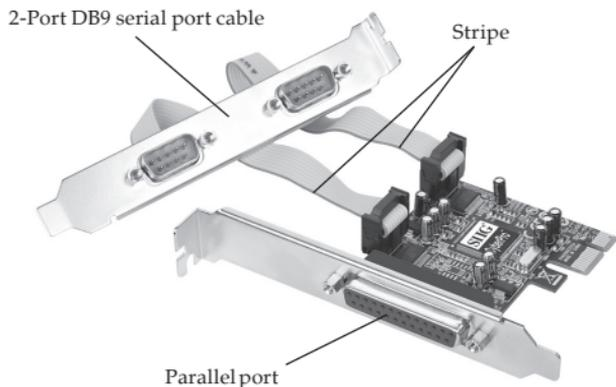

Figure 1: Board Layout
Note: When connecting the **2-Port DB9 serial port cable**, position the ribbon cable(s) so that the stripe is on the side closest to the parallel port. See **Figure 1**.
5. Connect the **2-Port DB9 (9-pin) serial port cable** connectors and remove another slot bracket cover from the system chassis. See **Figure 1** on the page 2 for more details. Skip this step if serial ports are not needed.